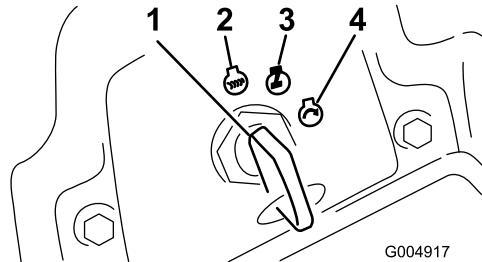

Figure 18
6. Turn the ignition key clockwise to the Run position (Figure 18).
3. Turn the ignition key to the Off position (Figure 18). Wait for all moving parts to stop before leaving the operating position.